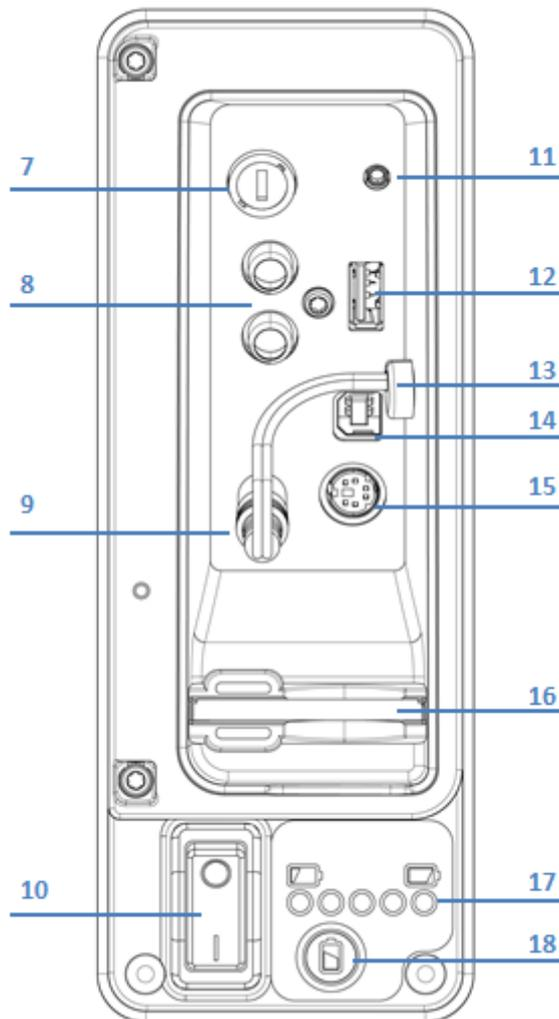

Figure 2.3 Controller I/O socket
- Ensure the **On/Off switch** (item 10 in Figure 2.3) is set to the **Off** position.
- Connect the power supply (12-24V DC vehicle supply, mains adaptor or optional battery pack) to the power socket. (Item 9 in Figure 2.3).
Insert a compatible Compact Flash card into the card slot, which is located inside the I/O panel (Item 16 in Figure 2.3).
Insert a compatible USB flash drive, (commonly known as a memory stick or thumb drive) into the USB socket, which is located inside the I/O panel (Item 12 in Figure 2.3).
Connect the supplied keyboard via the PS/2 connector in the I/O panel (Item 15 in Figure 2.3).